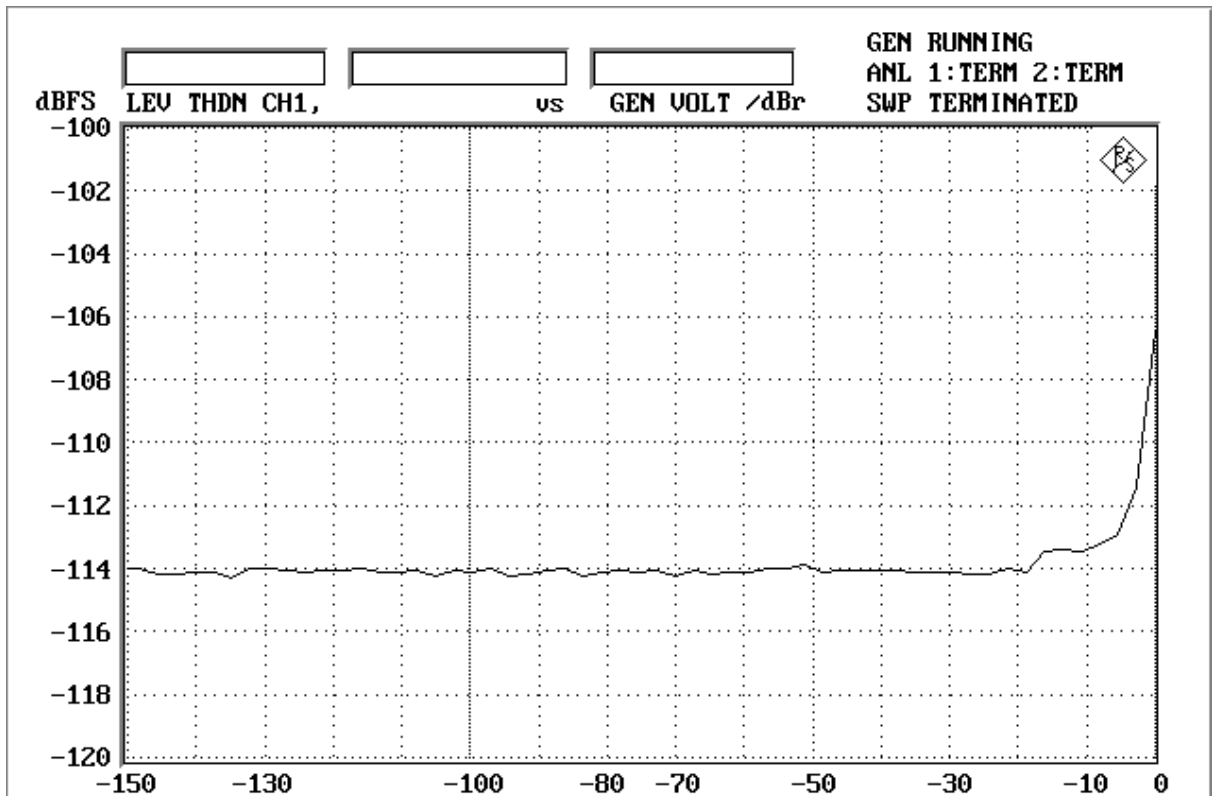

Fig. 6 THD+N vs. Input level (fin=1kHz)
- Figure 6. THD+N vs Input Level (fin=1kHz)